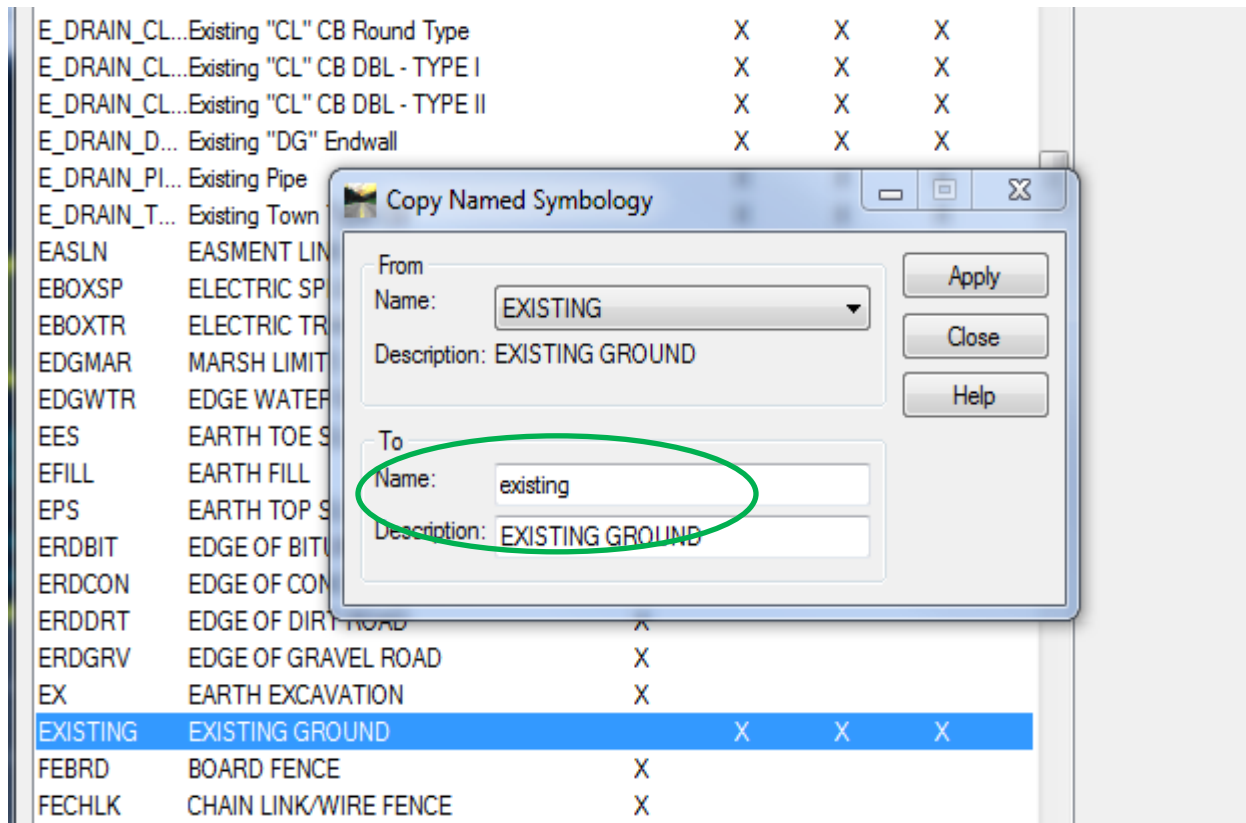

Figure 3-5 InRoads Copy Named Symbology Dialog Box
- E. The **Copy Named Symbology** box opens. Type in the word existing in lower case as shown in Figure 3-5.